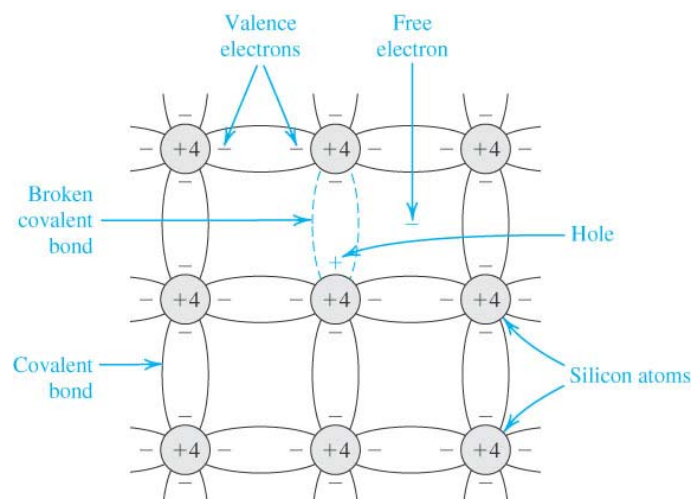

Figure 4.2: Electrons and holes generated by thermal ionization.
- Thermal ionization at room temperature (Figure 4.2)